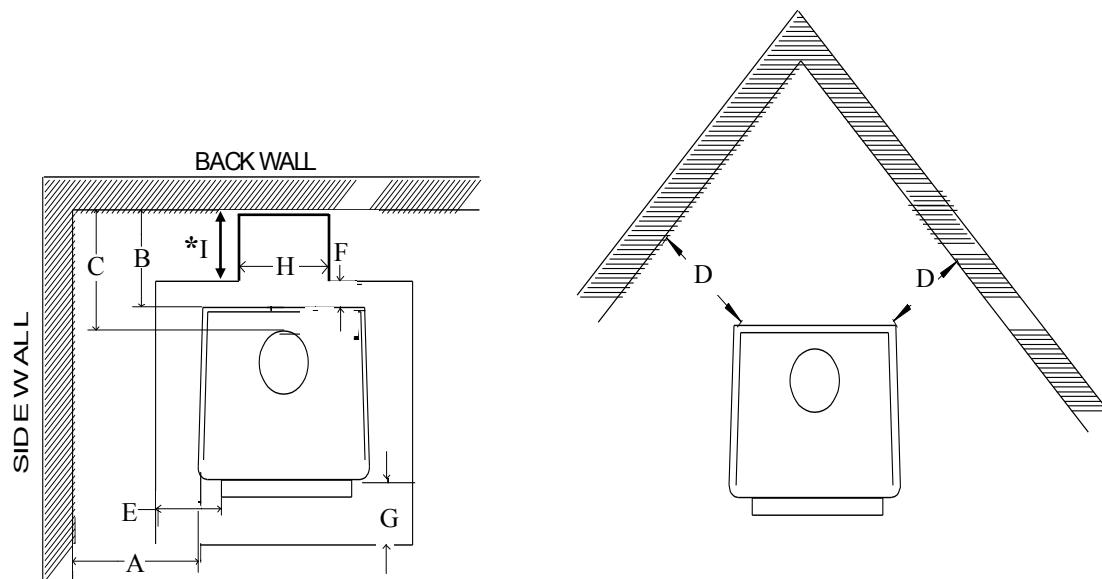

Figure 18
**NOTE:** Floor protector must be under horizontal pipe exit (See Figure 18, Page 20).
(See Figure 18, measurements H & \*I).